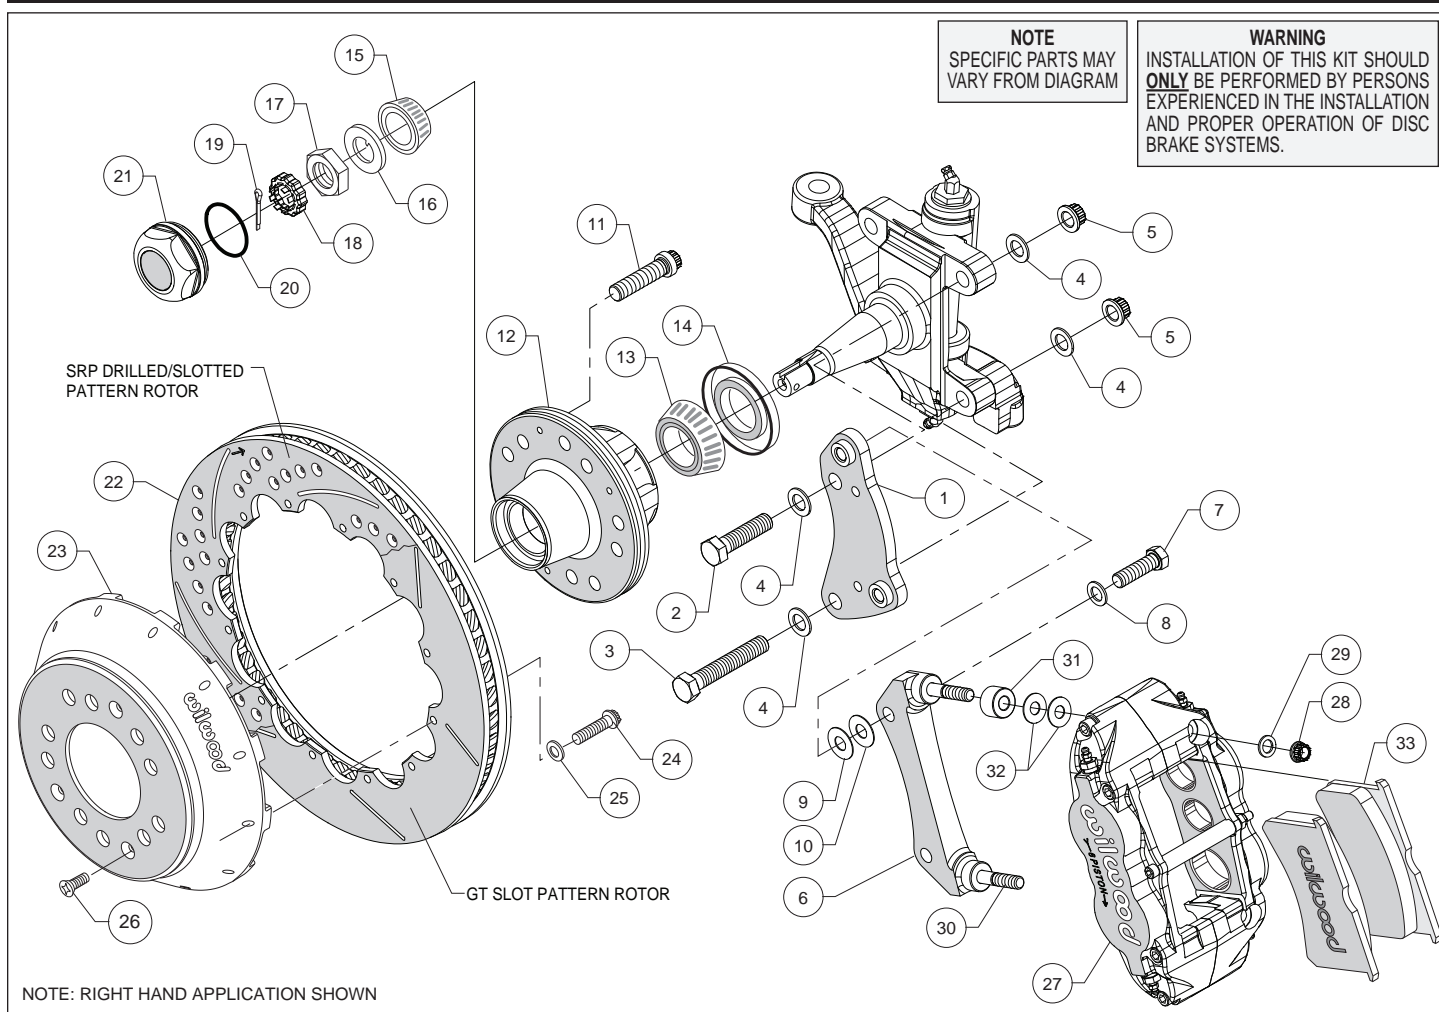
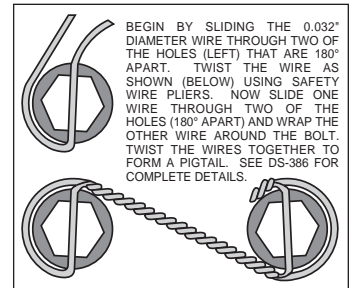
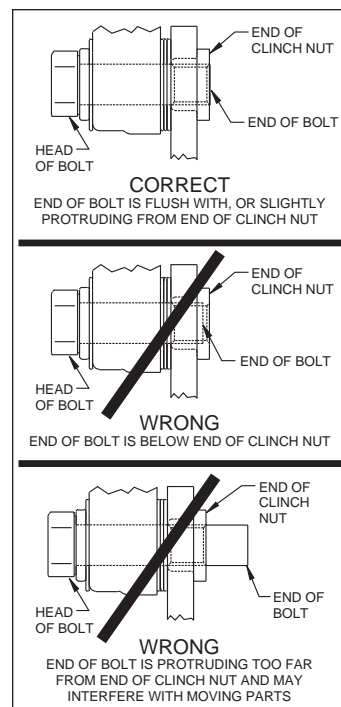

Figure 1. Typical Installation Configuration
Figure 3. Safety Wire Diagram
Figure 4. Clinch Nut Engagement Diagram
Assembly Instructions (numbers in parenthesis refer to the parts list, on the preceding page and Figure 1). **CAUTION:** All mounting bolts must fully engage clinch nuts. Be sure to check that all bolts are either flush or protruding through flanged side of clinch nut after shimming, Figure 4.
- Orient the spindle bracket (1) as shown in Figure 1 and Photo 1, and install using bolts (2 and 3), washers (4) and nuts (5). Temporarily tighten the mounting bolts. Ensure that the flanged heads of the clinch nuts in the bracket are facing outboard, Photo 1. **NOTE:** The bracket must fit squarely against the mount bosses on the upright. Inspect for interference from casting irregularities, machining ridges, burrs, etc. Torque lock nuts (5) to 65 ft-lb.
- The caliper mount radial bracket (6) should initially be installed with clean, dry threads on the mounting bolts. Orient the bracket as shown in Figure 1, and Photo 2. Install onto the spindle bracket using bolts (7), and washers (8). Initially place one .030 thick shims (9) on each bolt between the radial and spindle brackets, Figure 1. Temporarily tighten the mounting bolts. Later, after the caliper alignment has been checked, the mount bolts will be secured using red *Loctite*® 271.
- Screw dust cap (21) into hub (12), Photo 8. Friction created by the o-ring (20) on the dust cap keeps it from unscrewing. **NOTE:** *The O.D. of the existing OEM spindle washer may be larger than the I.D. of the dust cap not allowing it to seat against the hub face. Therefore, use the spindle washer (16) supplied with the kit instead of the OEM washer.*
- Orient the rotor (22) and the hat (23) as shown in Figure 1 and Photo 9. Attach rotor to hat using bolts (24) and washers (25). Using an alternating sequence, apply red *Loctite*® 271 to the threads, and torque to 155 in-lbs. For an added measure of security, the bolts may be safety wired using standard 0.032 inch diameter stainless steel safety wire as shown in Figure 3. Refer to Wilwood's data sheet DS-386 (available at www.wilwood.com/Pdf/DataSheets/ds386.pdf) for complete safety wire installation instructions.
- NOTE:** *This kit contains distinct right and left hand calipers that must be mounted in a specific direction, as described below.* Lubricate the caliper mounting studs (30) with lightweight oil. Initially place one spacer (31) and two .035" thick shims (32) on each stud between the caliper and the bracket, as shown in Figure 1 and Photo 11. Mount the caliper (27) onto the bracket (6) using lock nuts (28) and washers (29), Figure 1. Ensure that the caliper is mounted so the largest pistons are at the rotor exit end of the caliper, in relation to the direction of rotor rotation. Temporarily tighten the lock nuts and view the rotor through the top opening of the caliper. The rotor should be centered in the caliper, Photo 12. If not, adjust by adding or subtracting shims (9 and/or 10) between the spindle bracket (1) and the caliper